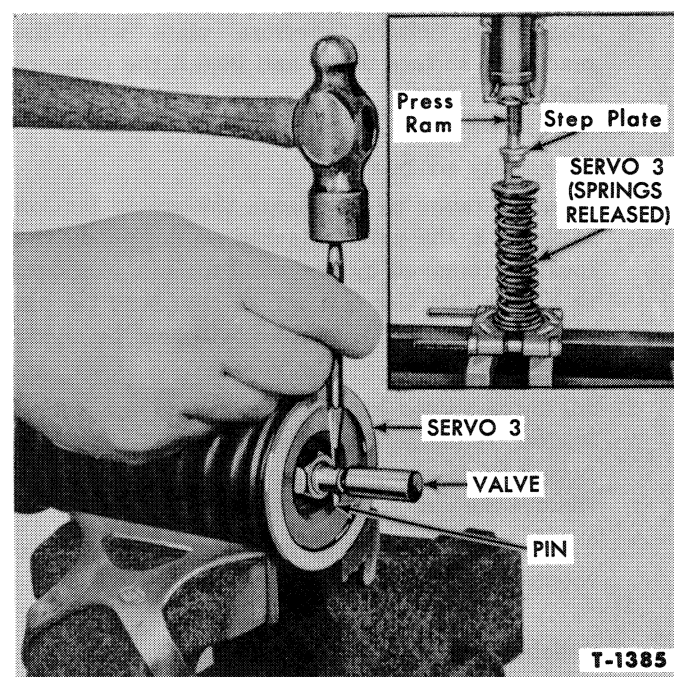

Figure 119—Servicing the Servos
1. Before attempting to release the spring tension of servo 3, the valve attached to the piston rod must be removed by removing the pin, as shown in Figure 119. Use a punch smaller than the pin diameter so that the holes will not be made oversized.
3. Then, the spring or springs (servo 3) can be released, as shown in the insert, Figure 119.